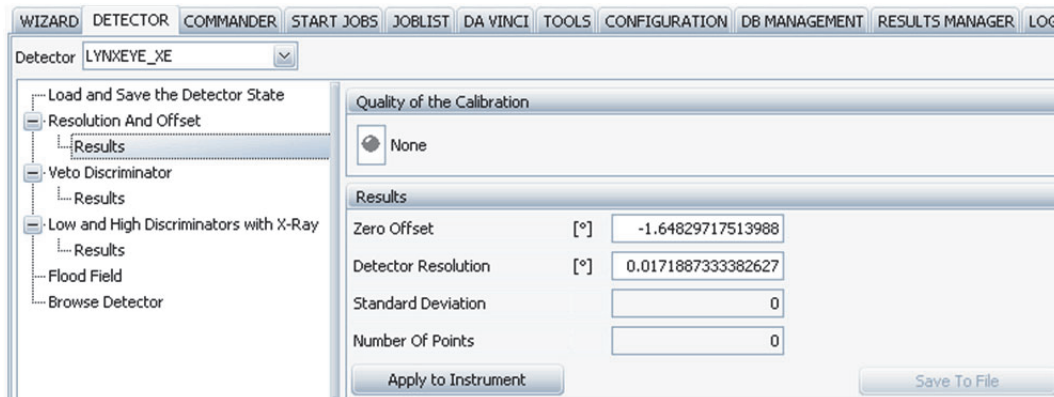

Figure 6.36: Apply the calculated values to the instrument.
- Press 'Apply to Instrument' to activate the calculated values, see Figure 6.36.